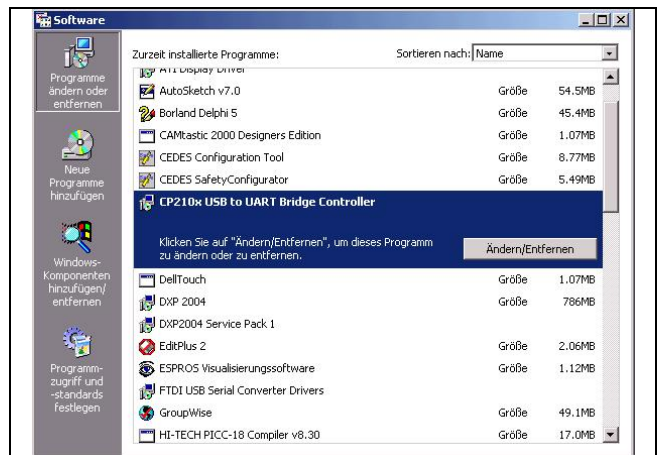

Figure 139: Remove of driver software
- In the window 'Software' there are listed the installed software, including USB driver software. The example of Figure 139 shows a USB driver software of the type 'CP210X USB to UART Bridge'.